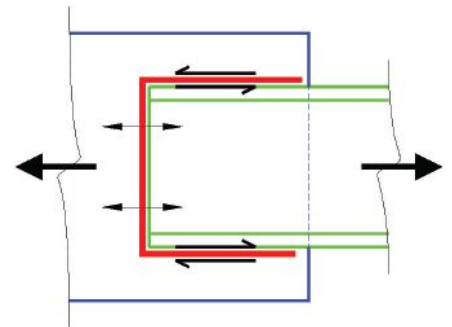

Fig. 8. Concentrically loaded weld group example.
Concentrically loaded weld groups. Section J2.4(b)(2) provides an additional alternative to Table J2.5 for fillet weld strength that also takes advantage of the increase in fillet weld strength for concentrically loaded weld groups. Concentrically loaded weld groups combine welds in tension and shear, with the resisting welds concentric with, and in the same plane with the applied force (see Figure 8).
In the Figure 8 example, the channel tension member is welded to the gusset plate with a concentrically loaded weld group, the longitudinal welds between the channel flanges and the gusset plate are loaded in pure shear, and the transverse weld between the channel web and the gusset plate is loaded in pure tension.